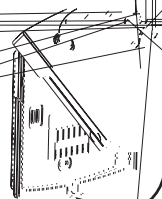

Figure 6
- Insert the bottom tab on the thermostat body into the slot at the bottom of the wallplate. Press the top of the thermostat body to snap it into the wallplate. Refer to Figure 6. (NOTE: **Do not force**